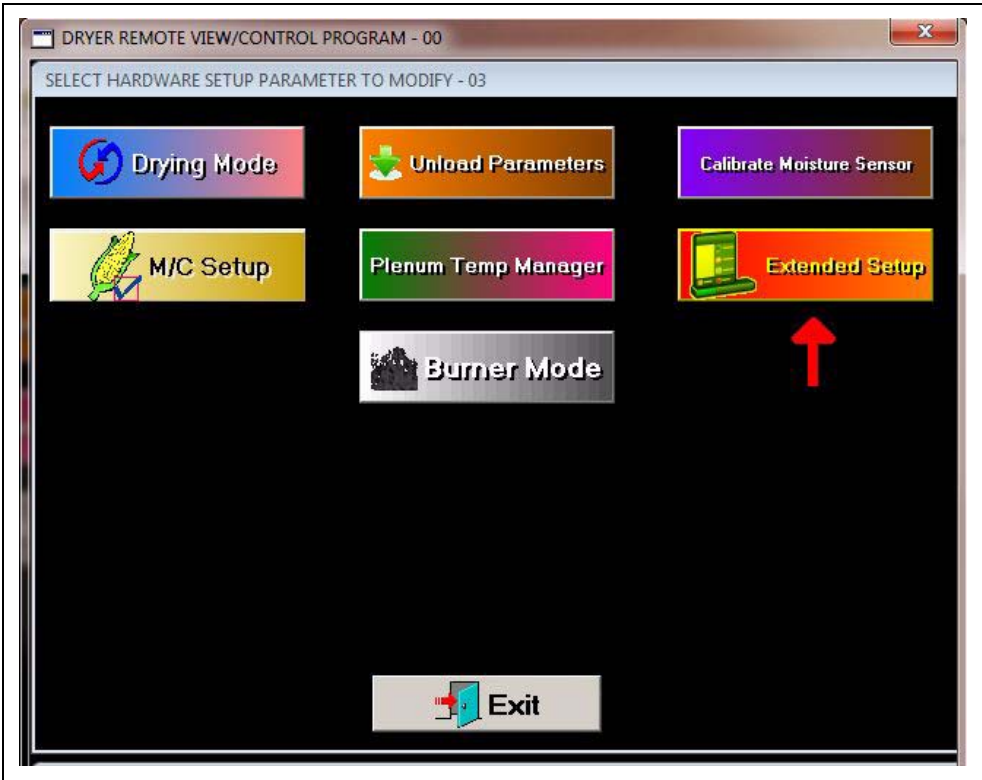

Figure 3D
4. Select Extended Setup on setup screen. (See Figure 3D.)